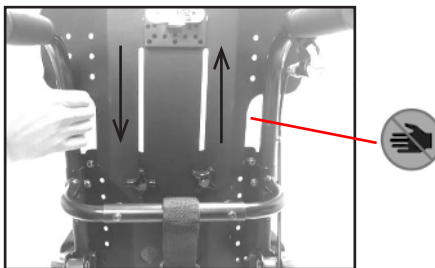

Fig. 23
3. Slide the back up or down carefully to desired position. Fig. 23